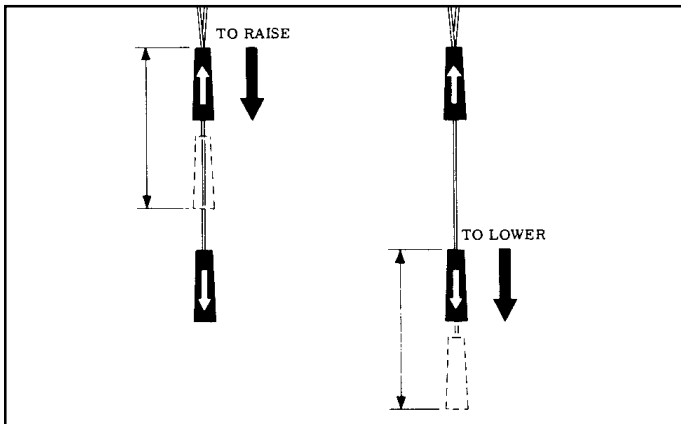
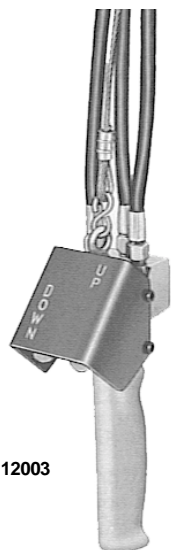

Figure 3-1. Pull Cord Control Handles.
Figure 3-2. Pendant Throttle Control Handle
**3-1. GENERAL.** Operation of BUDGIT Air Hoists is controlled by either pull cords or a pendant throttle control, depending upon the model. Pull Cord Control models have pull type control cords (Figure 3-1) suspended from a rocker type lever at bottom of hoist that actuates the throttle control valve. Pendant Throttle Control models have a convenient lever type control valve handle (Figure 3-2) suspended from the control cylinders on sides of control head housing.
- (1) Depress throttle valve lever marked "UP" to raise load. See Figure 3-2.
- (2) Depress throttle valve lever marked "DOWN" to lower load.
- (3) Release lever being depressed to stop either lifting or lowering.
- (4) Speed of lifting and lowering is varied by the position of the throttle valve lever being depressed.